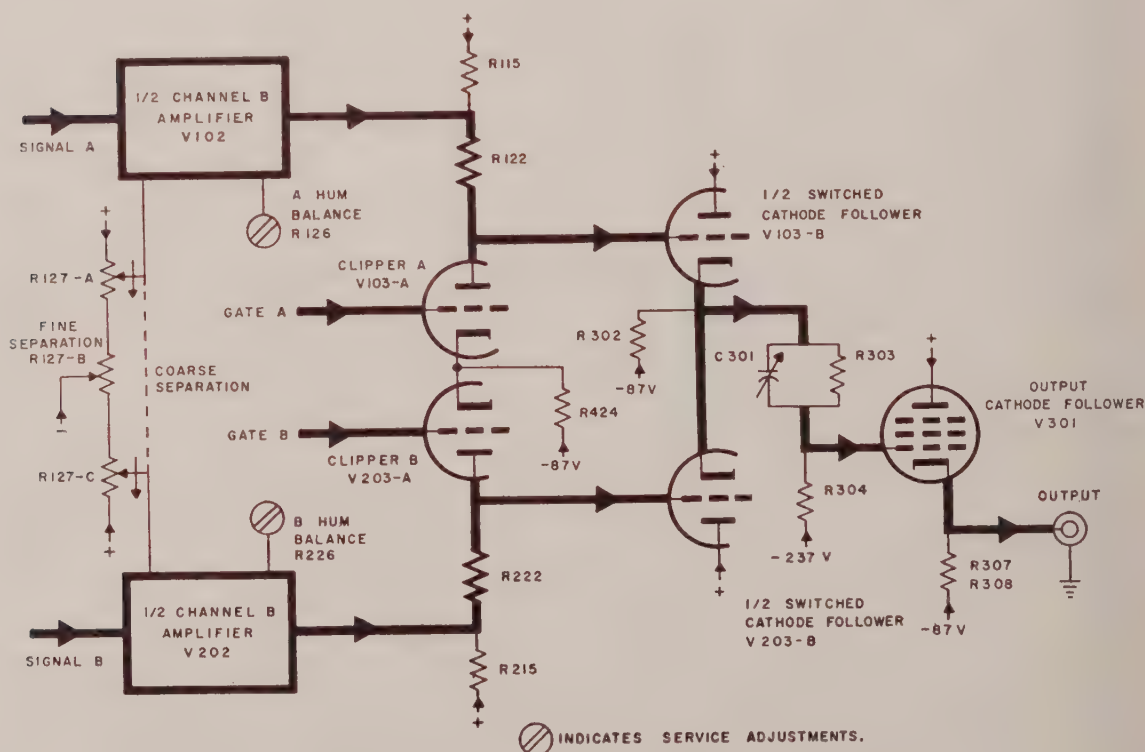

FIGURE 3-1. SWITCHING AND OUTPUT CIRCUITS
4. Switching Action (See Figure 3-1)
5. Output Circuits (See Figure 3-1)